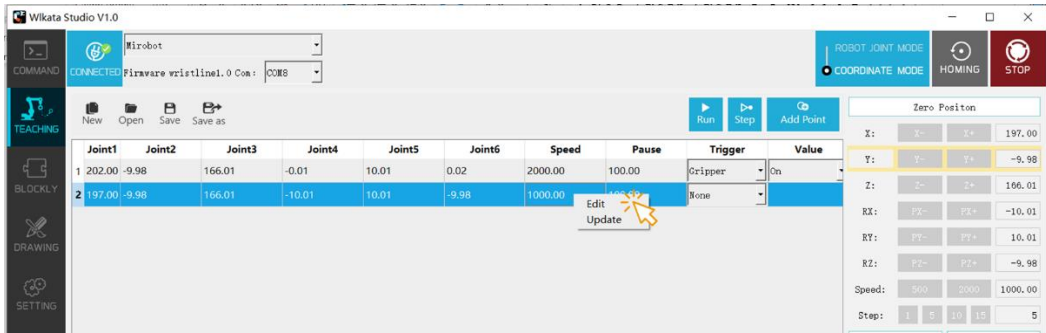

Figure 3.25 Editing the teaching point by the right-side panel
- Editing the teaching point by the right panel: single right-click on the top of the line you want to edit --> choose **Edit** in the pop-up manu --> adjust the value in the right panel -> move the mouse arrow back to the teaching point line you want to edit and single right-click on the top of the line again --> choose **Update** in the pop-up manu to apply the value on the right panel to the selected teaching point line. As shown in Figure 3.25